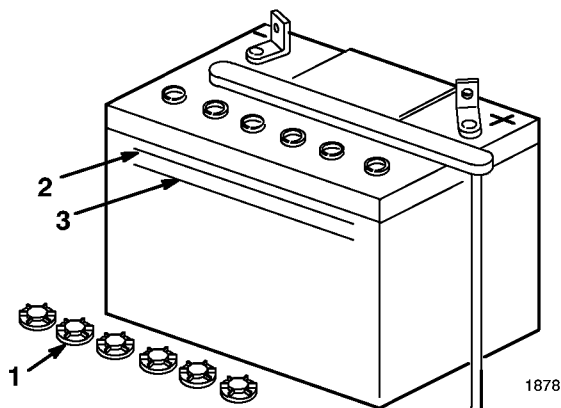

Figure 22
2. Look at the side of the battery. The electrolyte must be up to the “UPPER” line (Fig. 22). Do not allow the electrolyte to get below the “LOWER” line (Fig. 22).
2. Unscrew the filler caps (Fig. 22).
3. Slowly pour distilled water into each battery cell until the level is up to the “UPPER” line (Fig. 22) on the battery case.